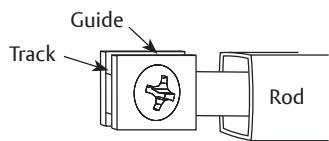

Figure 9
1. Turn guide "I" so track is horizontal. (Figure 9)